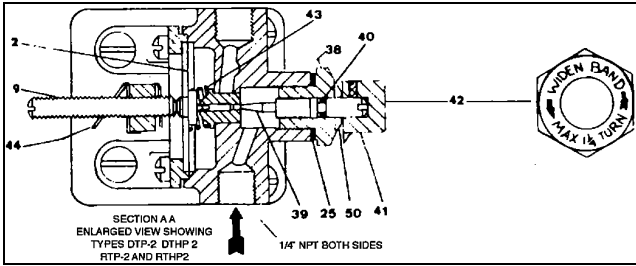

Figure 5 - Body assembly RTP - DTP Types, showing adjustable proportional band mechanism
2. Location of Thermal Tube – Locate thermal bulb a minimum of 6" from nearest heating or cooling coil. DO NOT place in direct path of heating or cooling fluids in injection systems. Full length of thermal tube must be in contact with heated fluid at a point where true changes in temperature will be felt immediately. See Figure 5 for shell and tube heaters (Instantaneous).
Figure 5 - Temperature Pilot controlling on Instantaneous Heater in conjunction with a Differential Pressure Pilot. Acts as Pressure Limiting Device. Provides anticipating action - 1:1 ratio, air/steam.